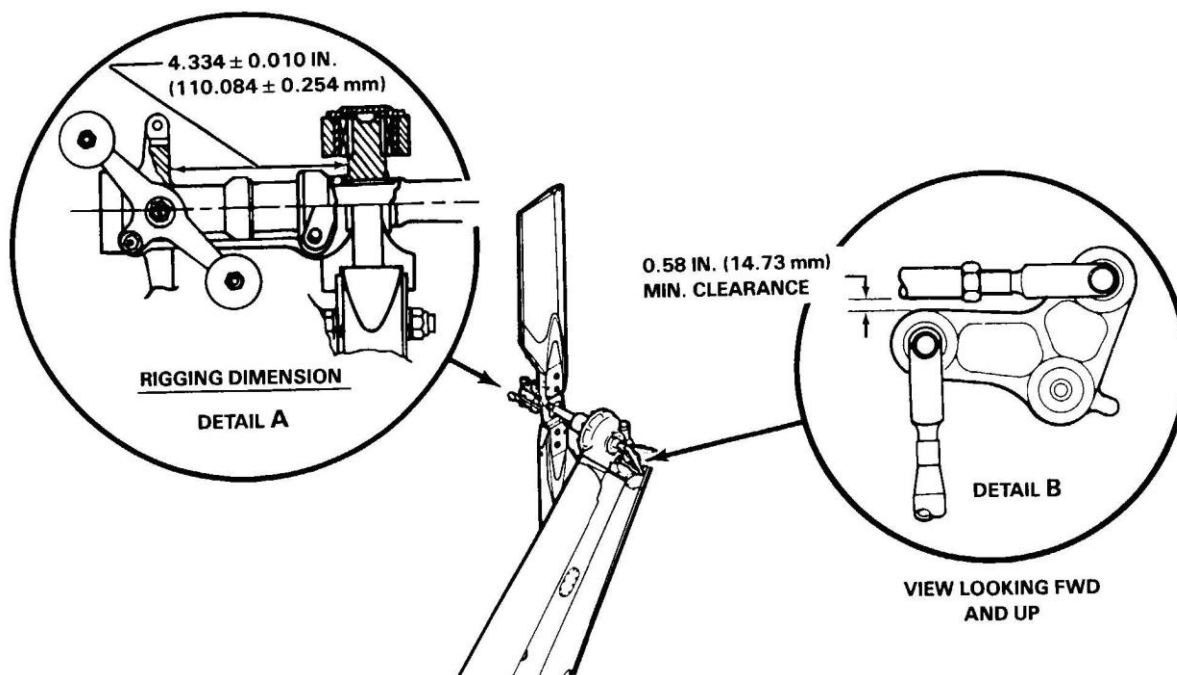

Figure 67-6. Anti-Torque Rigging (212-011-701 Hub and Blade) (Helicopter s/n 31175 and Subsequent)
67.1.9.4. Position tail rotor blades to obtain dimension of 4.334  $\pm$ 0.010 in. (110.084  $\pm$ 0.254 mm) between inboard face of crosshead and outboard face of trunnion journal (Figure 67-6, detail A).
67.1.9.5 Holding specified position of rotor, adjust link (6, Figure 67-5) to obtain 0.58 in. (14.73 mm) minimum clearance with bellcrank (7) and connect link to lever (5) with bolt, washers, and nut (Figure 67-6, detail B). Torque nut 60 to 110 in-lbs. (6.78 to 12.42 Nm). Install cotter pin.